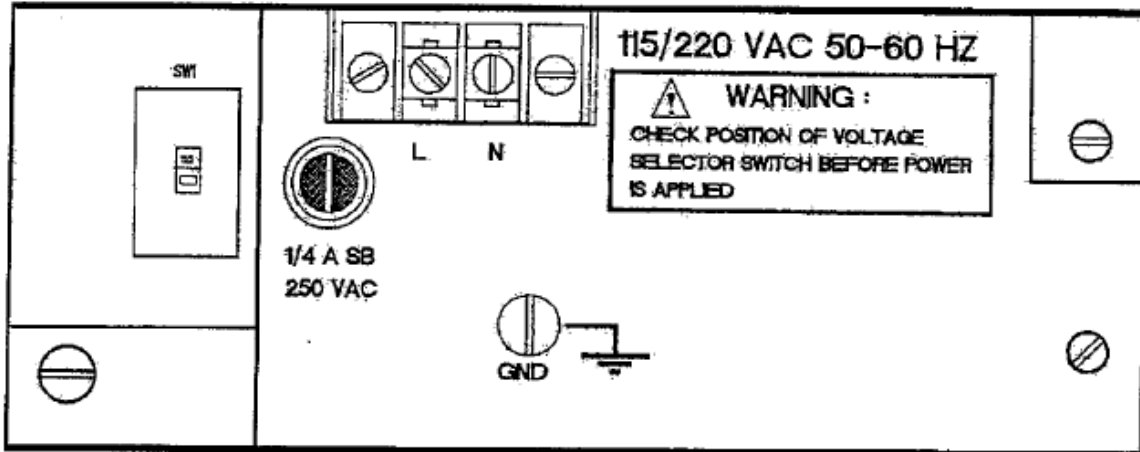

Figure 2-4. AC Power Connections and Fuse.
2.3.3 Mains (AC) Power (Figure 2-4)
A screw terminal is provided for permanent transmitter power connection. All units are shipped from the factory configured for 115 VAC operation. To select 230 VAC operation, change SW1 on the base or 'mother' board (see Figure 2-4) to the 230V setting. The unit will operate within specification at 50 or 60 Hz. Before connecting power to the unit, verify that the proper power selection has been made. The two position terminal block is equipped with a clear plastic cover to prevent operator injury. Cable can be either solid or stranded 12 or 14 gage with a ground conductor.